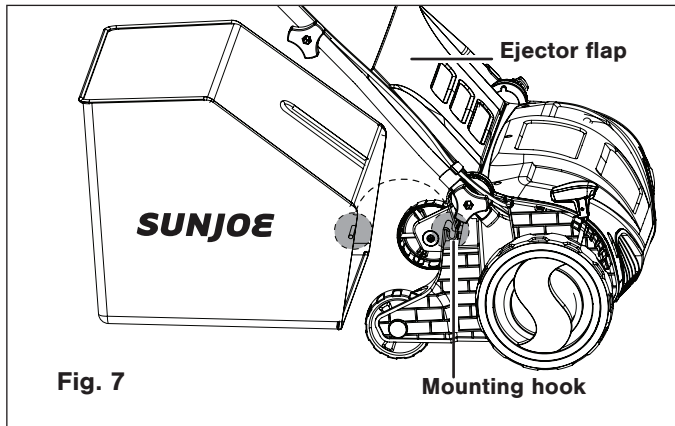

Fig. 7
1. Lift the ejector flap, and hang the thatch collection bag to the mounting hooks (Fig. 7).